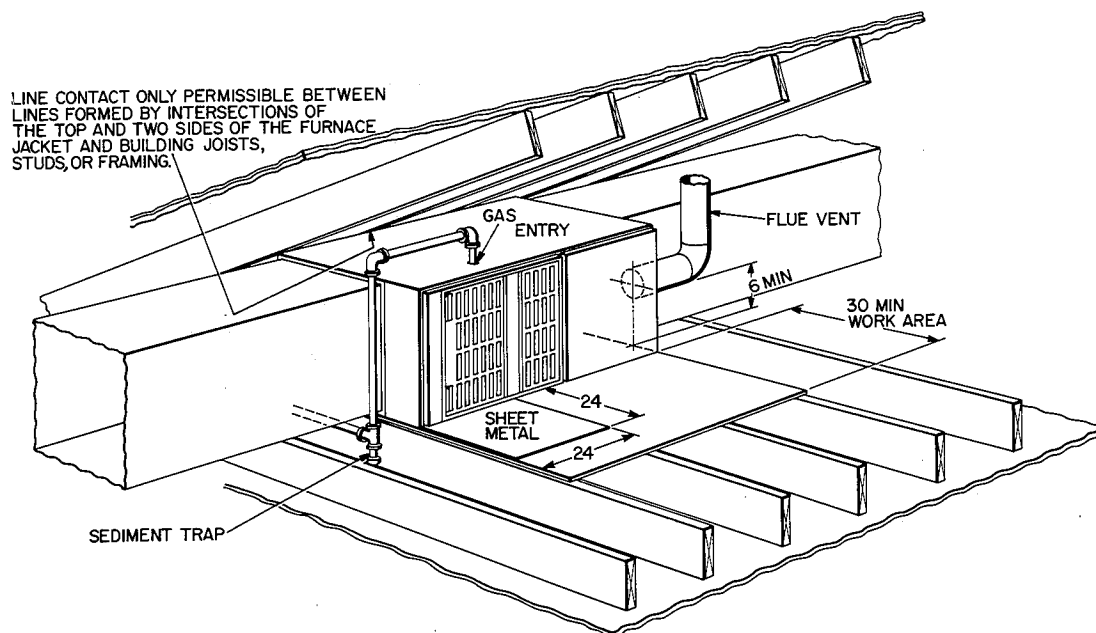

Figure 7—Typical Attic Installation
The furnace can be installed horizontally on either the lefthand (LH) or righthand (RH) side. A typical attic installation is shown in Figure 7.
1. Construct working platform on location where all required furnace clearances are obtainable. (See Table I and Figure 7.)
2. Connect gas supply pipe; see Figure 7 for typical piping entry.
4. Install 24- x 24-inches sheet metal shield on platform in front of louvered control panel, as shown in Figure 7.